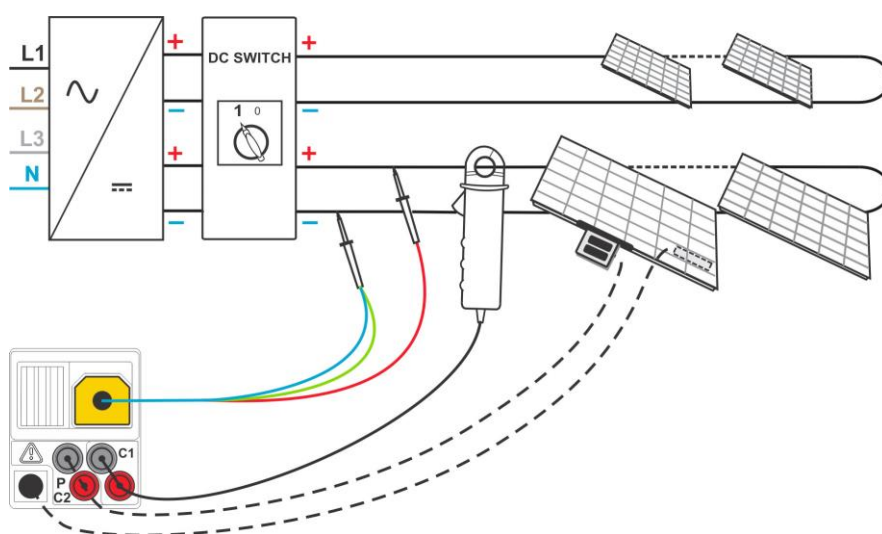
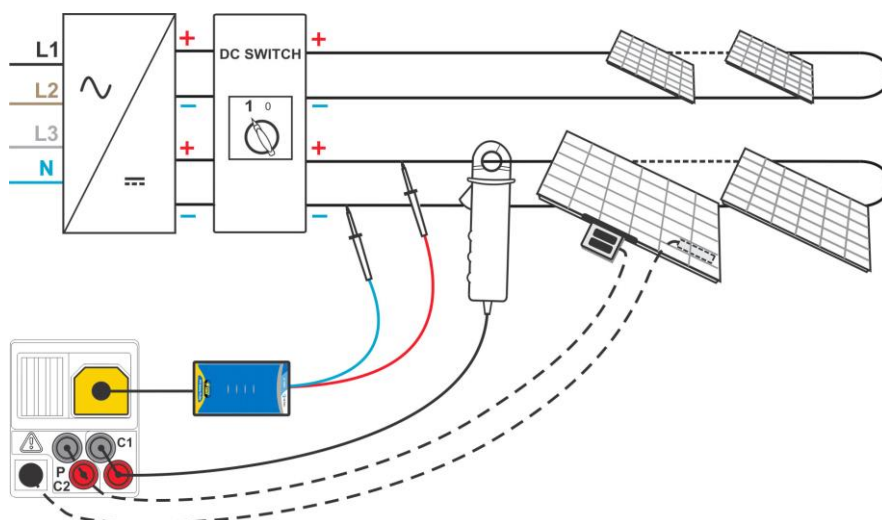

Figure 5.27: Connection with universal PV test lead
Figure 5.28: Connection with PV safety probe
- ❑ **Connect** universal PV test lead / PV safety probe, current clamp(s) and sensors to the instrument (see **Figure 5.27** and **Figure 5.28** ).
- ❑ **Connect** accessories to the PV system to be tested (see **Figure 5.27** and **Figure 5.28** ).